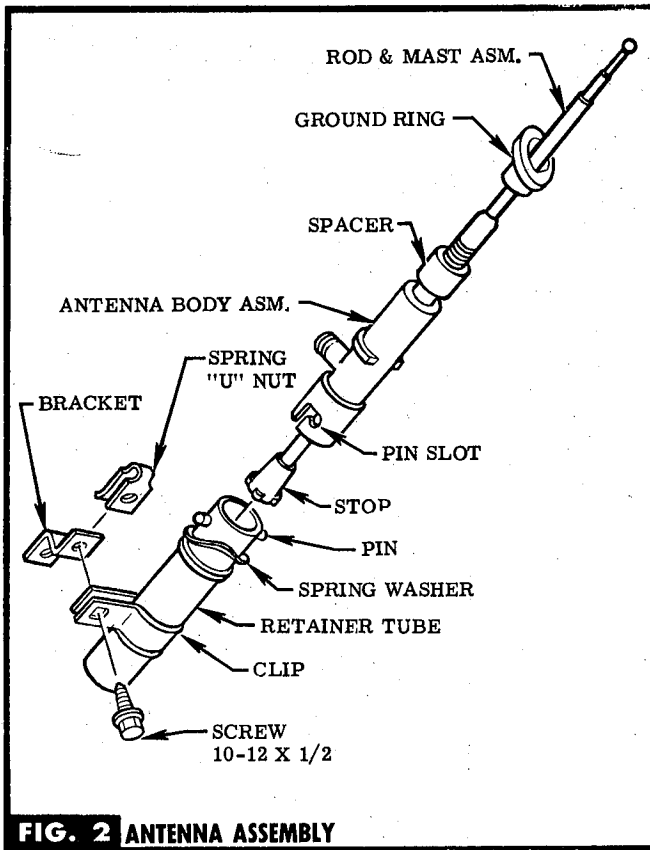

FIG. 2 ANTENNA ASSEMBLY
STEP 3 INSERT ROD & MAST INTO TOP OF ANTENNA BODY ASM. & PUSH THRU. SNAP STOP ON END OF ROD. SEE FIG. 2.
STEP 4 LOOSELY ATTACH BRACKET, CLIP, & SPRING NUT TO RETAINER TUBE WITH SCREW. SEE FIG. 2.
TURNING TO LOCK IN PLACE SECURELY. SEE FIG. 2.
STEP 6 PLACE SPACER, & GROUND RING, ON ROD & MAST ASM. & DROP IT ONTO THE ANTENNA BODY. SEE FIG. 2.